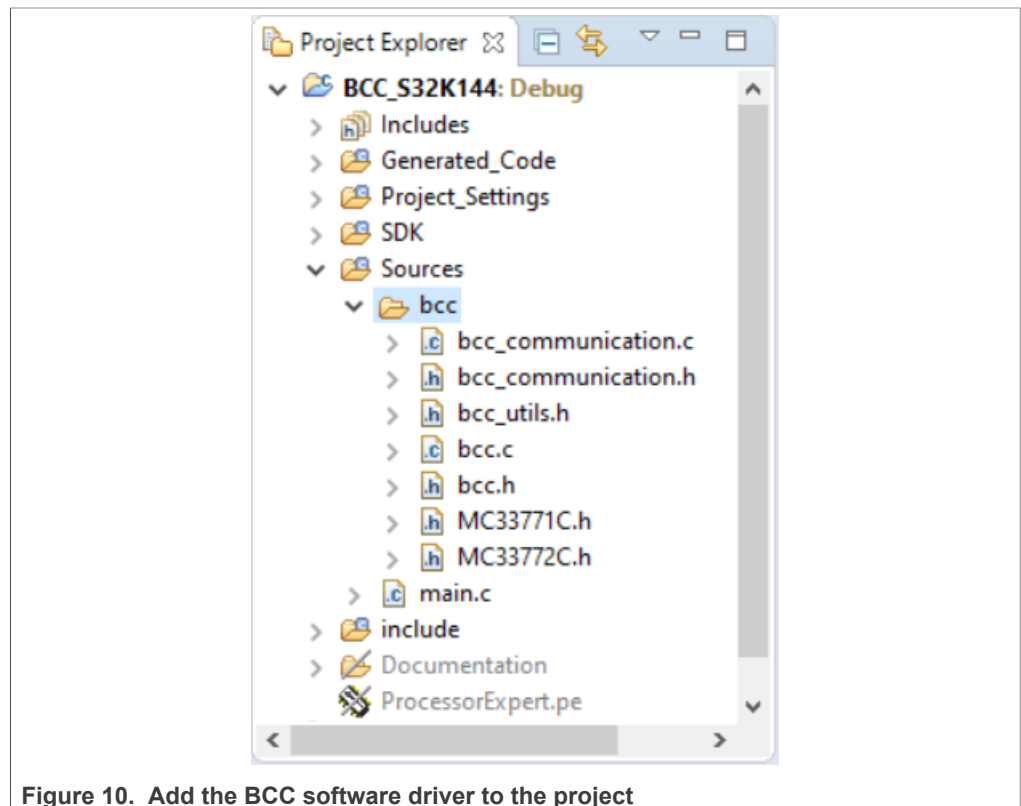

Figure 10. Add the BCC software driver to the project
- Copy the content of BCC_SW_Driver to the Sources folder in your newly created project. See Figure 10 for a list of copied files (Lite version of this driver).